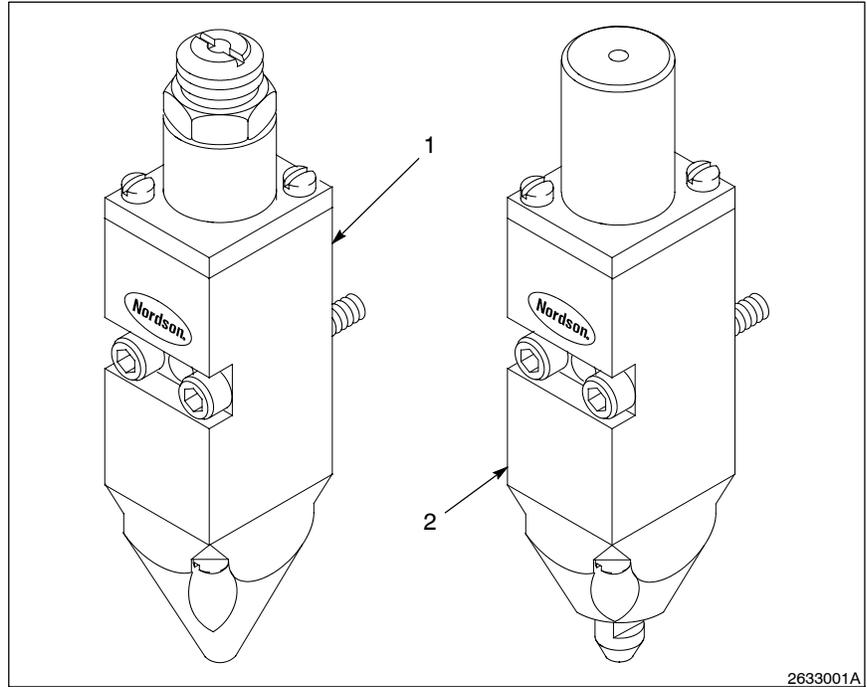

Fig. 1 ZCN Dispensing Gun (Both Models Shown)
See Figure 1. The ZCN dispensing gun is an air-operated, spring-closed gun used to dispense both clear and black primers in automotive applications. The gun may be used to dispense other materials as defined by your application and as determined by your Nordson representative. The ZCN dispensing gun is available in a standard model (1) and a model with a flow through felt nozzle (2).